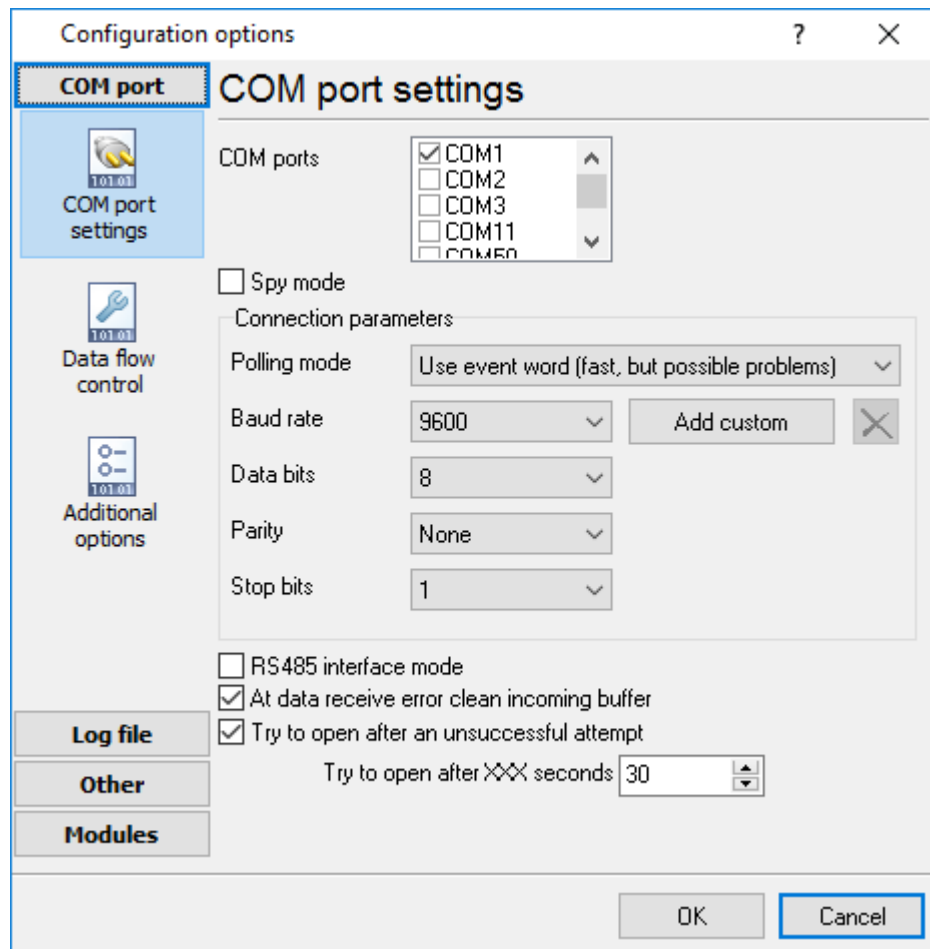

Fig. 12. Data transfer options
2. If the modem is connected to the COM port, you should specify the correct data transfer parameters (speed, data bits, etc.) (fig. 12)